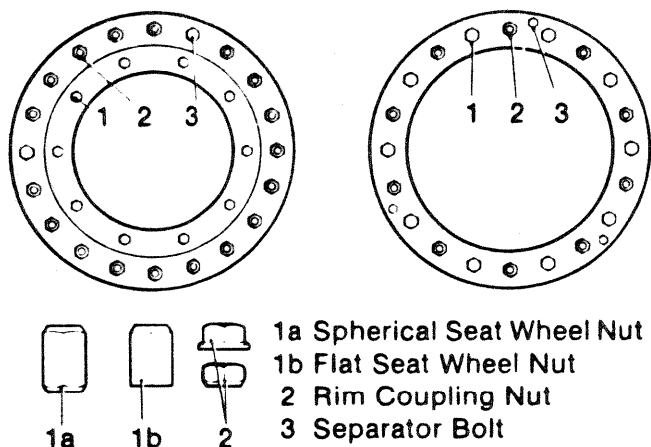

Fig 12-4
Check the wheel and wheel nuts for damage. Tighten the wheel nuts as required to a torque of 405 to 445 N.m (300 to 330 lbf.ft) for FLAT wheel nut seats or 575 to 645 N.m (425 to 475 lbf.ft) for SPERICAL wheel nut seats (See Fig 12-4).
3. Use tire tongs or another suitable tire lifting device to support the rim and remove the **WHEEL STUD NUTS** (See Item 1 in Fig 12-4). Remove the assembly from the machine.